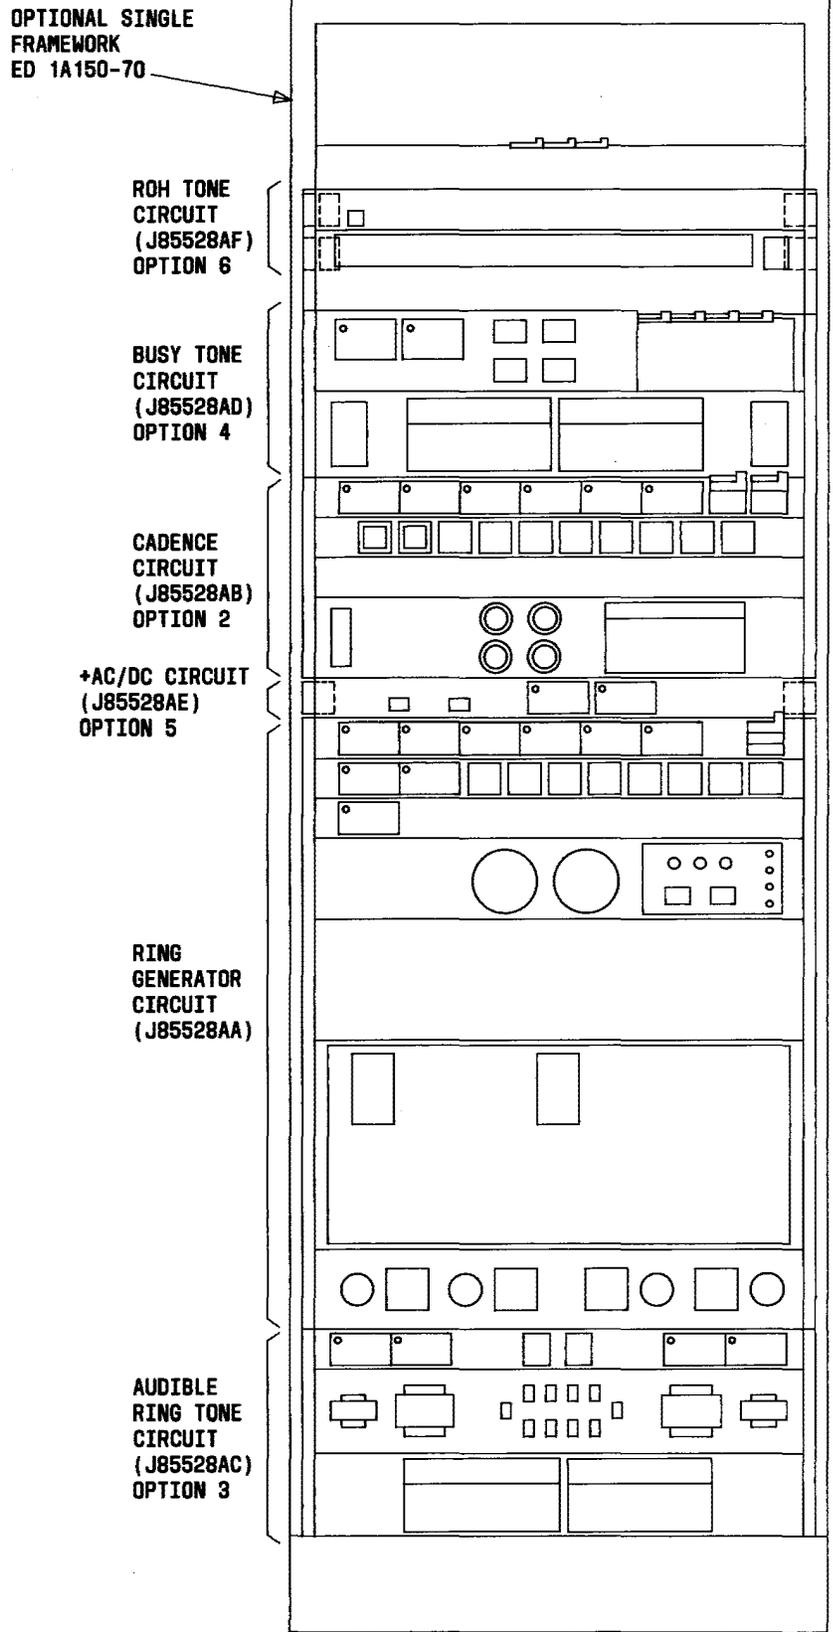

Fig. 1—891A (J85528A) Auxiliary Ringing, Tone, and Cadence System
1.03 The following items are furnished by a fully equipped J85528A, Auxiliary Ringing, Tone, and Cadence System. (See Fig. 1.)